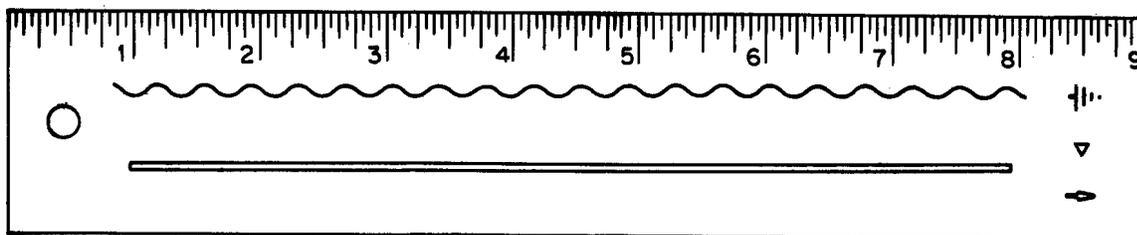

Fig. 1 - Plant Assignment Symbol Guide
9.02 The plant assignment symbol guide shown in Fig. 1 is provided to simplify the diagramming of wire, and for general use in the plant assignment center. The guide may be used with either a pencil or the Wrico lettering pen.